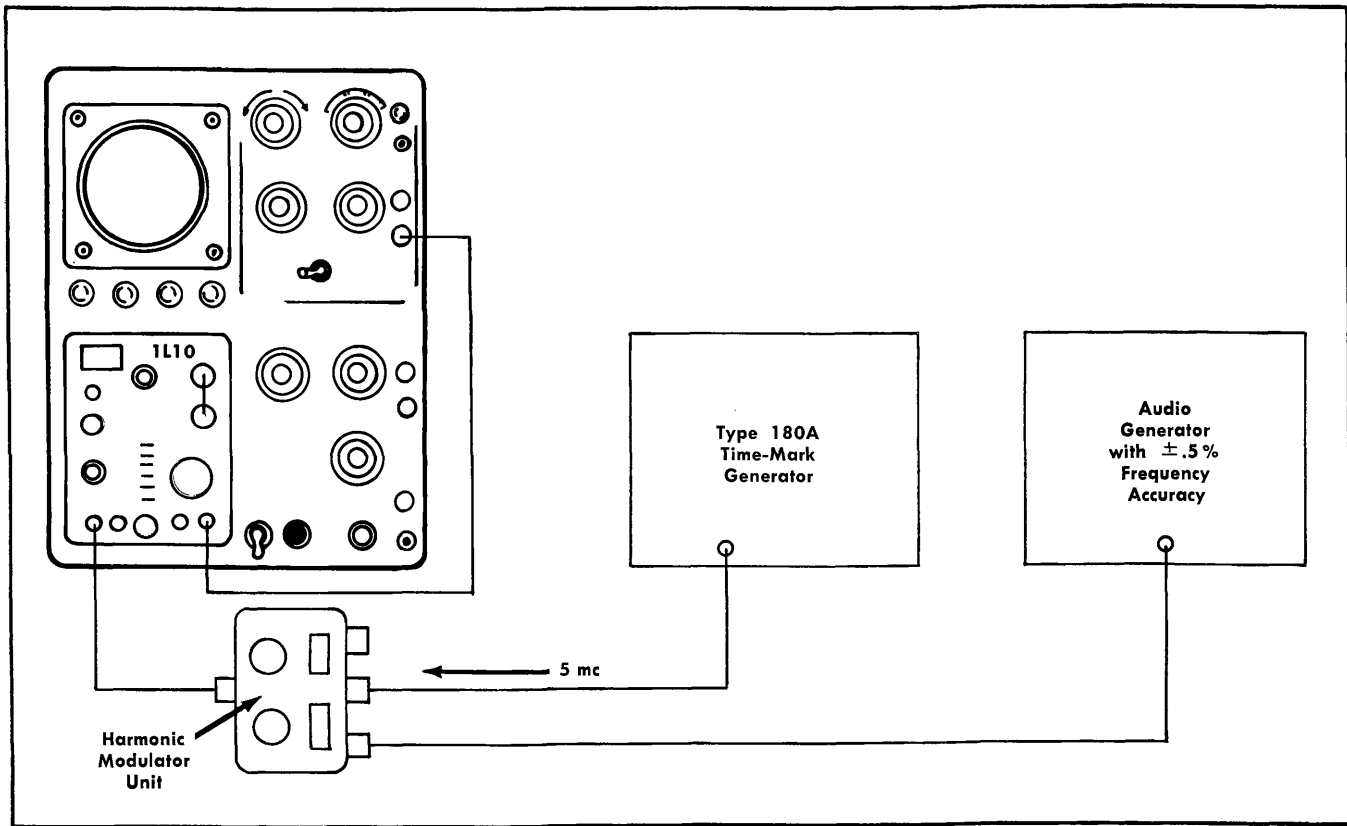

Fig. 4-4. Equipment setup for dispersion check at 2, 1, .5, .2, and .1 KC/CM settings of the DISPERSION-KC/CM switch.
1. Connect the equipment as shown in Fig. 4-4.